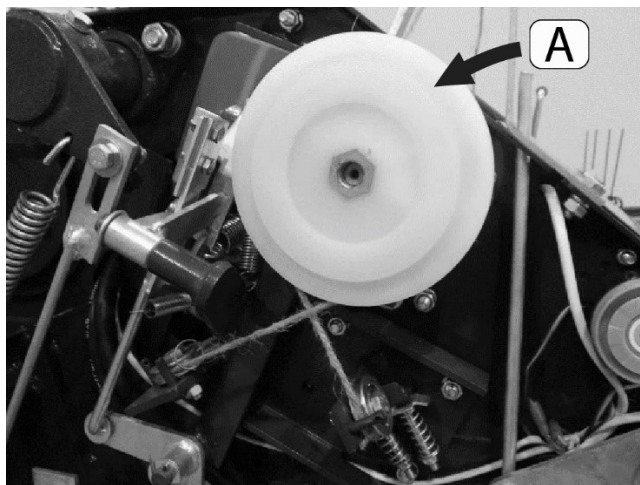

Figure 28 Right side of baler
- The twine pulley (Figure 28, A), which controls the number of windings of twine on each bale, is behind the cover on the right side of the machine.
- There are two twine installation positions on the pulley. Using the larger diameter slot will result in the twine winding around the bale approximately 11 times, while the smaller diameter will result in approximately eight (8) wraps.